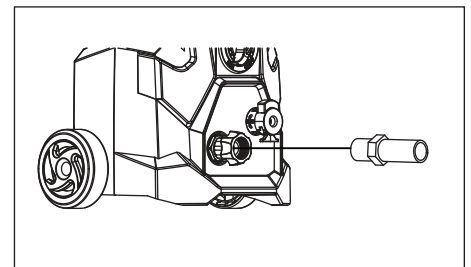

Figure 8 - Attach garden hose to unit
4. Attach garden hose to unit (see Figure 8).